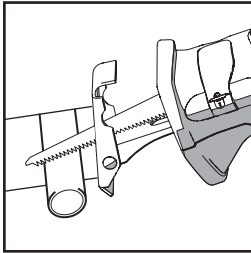

Fig. 8
- Cut through the workpiece slowly allowing the flexible blade to curve as required. **(Fig. 8)**.